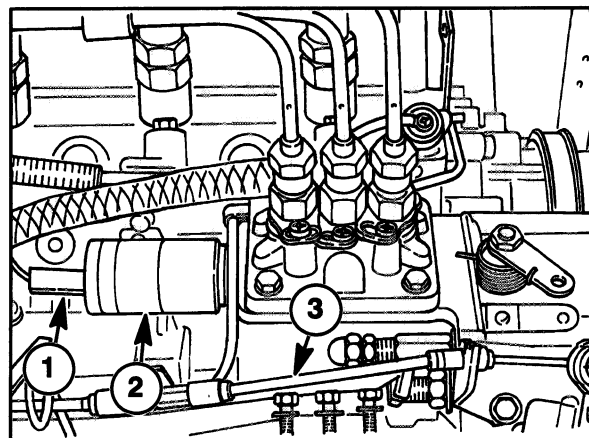

Figure 1-18
3. Disconnect the throttle control cable from the governor lever, 3, Figure 1-18.